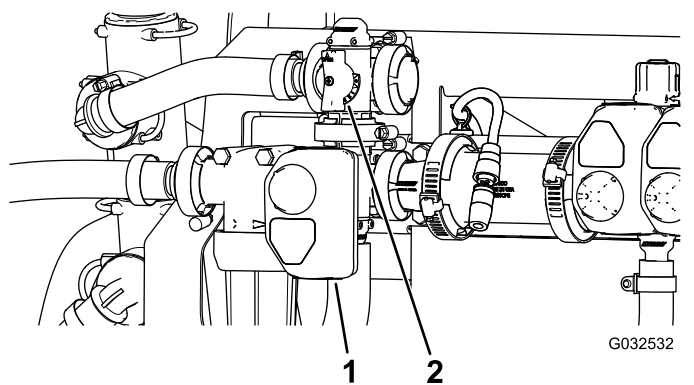

Figure 49
10. Adjust the agitation-bypass valve (Figure 49) on the backside of the agitation valve until the sprayer system pressure indicated on the gauge indicates 689 kPa (100 psi).